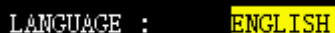

Figure 8-2 Language Setting
- (1) Use rotary knob or direction key to move the cursor to 【LANGUAGE】 , as shown in Figure 8-2.
- (2) Press Enter key to complete the setting.
- (3) Press ESC key to go back to the last level, press ESC key again to enter the main operating interface.